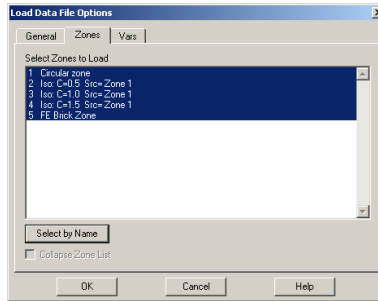

Figure 5-4. The Zones page of the Load Data File Options dialog.
5.1.1.3. Data File Loading Zone Options. On the Zones page, shown in Figure 5-4, allows selection of specific zones to load from data files and, if appropriate, whether to collapse the zone list. To specify which zones to load, select them in the Select Zones to Load list box. Zones are listed in the order (that is, all zones from the first data file, then all zones from the second, and so forth). By default, all zones are selected to be loaded.